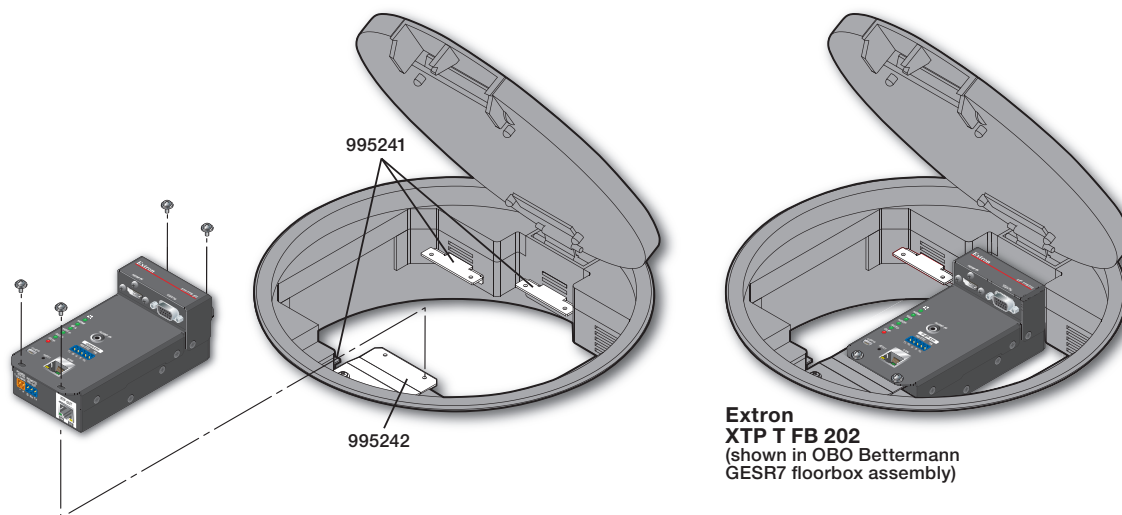

Figure 3. XTP T FB 202 in an Ackermann GB3 (OBO Bettermann) Floor Box
- b. Using the provided self-threading screws, secure the XTP T FB 202 to the adapter plates (see figures 3 through 6).